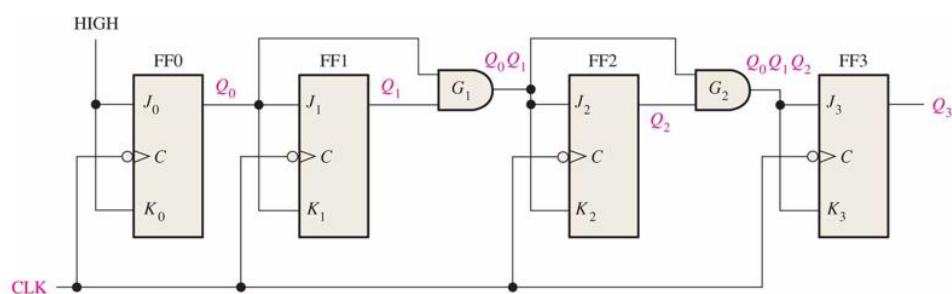
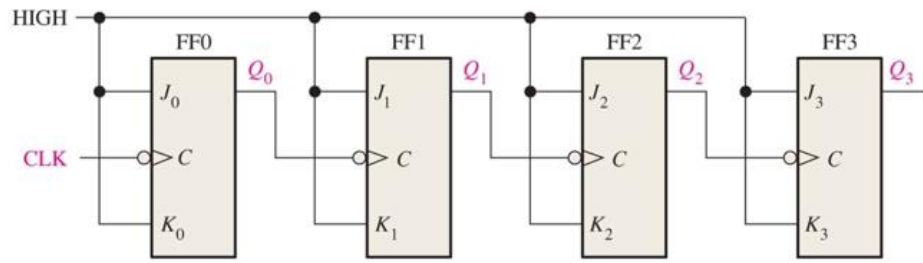

Figure 5.1. 4-bit Synchronous Counter
Figure 5.2. 4-bit Asynchronous Counter
- Simulate the circuits given in Fig. 5.1 and Fig. 5.2 using OrCAD PSpice and add the simulation results to the report (**Pay attention to the simulation notes given in the first experiment**). Show CLK, Q3, Q2, Q1, Q0 from top to bottom on the simulation plot.
- Simulate the circuits given in Fig. 5.1 and Fig. 5.2 using TinkerCAD PSpice and add the simulation results to the report (**Pay attention to the simulation notes given in the first experiment**). You may use 7473 JK flip flops in these simulations (Pay attention to the pin configuration.). Use 1Hz, 5V square wave for clock inputs.
#### i. Implement the circuit given in Fig. 5.1.
#### ii. Implement the circuit given in Fig. 5.2.